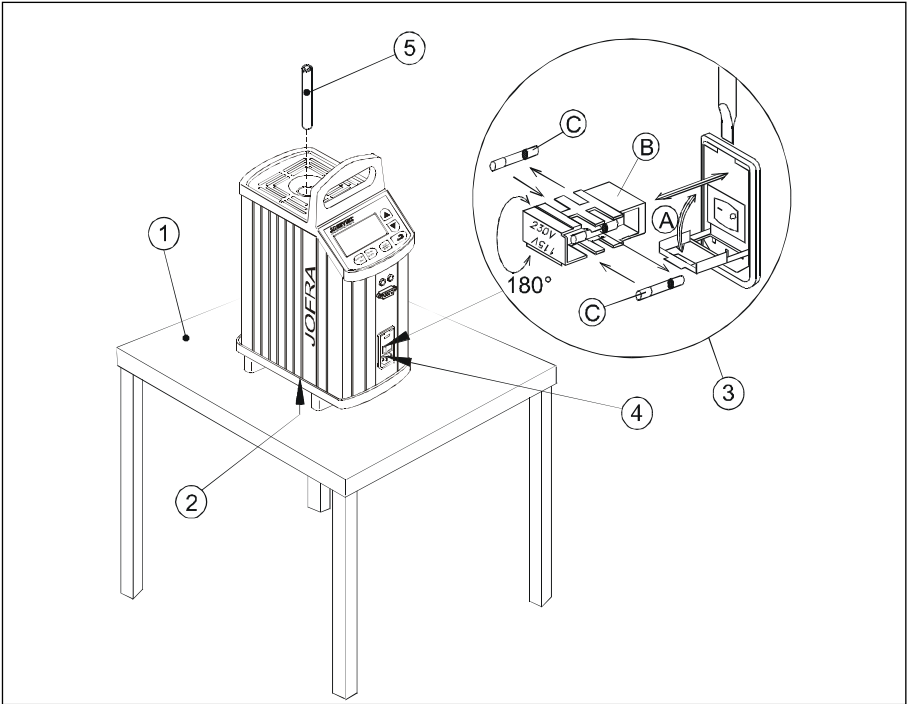

Fig. 1
- ① Place the calibrator on an even horizontal surface in the spot you intend to use it.
- ② Ensure a free supply of air to the fan located at the bottom of the instrument.
- ③ Check the voltage of the power control switch (on/off switch (230V/115V)). If the voltage of the power control switch differs from the line voltage, you must adjust the voltage of the power control switch as follows (see Fig. 1):